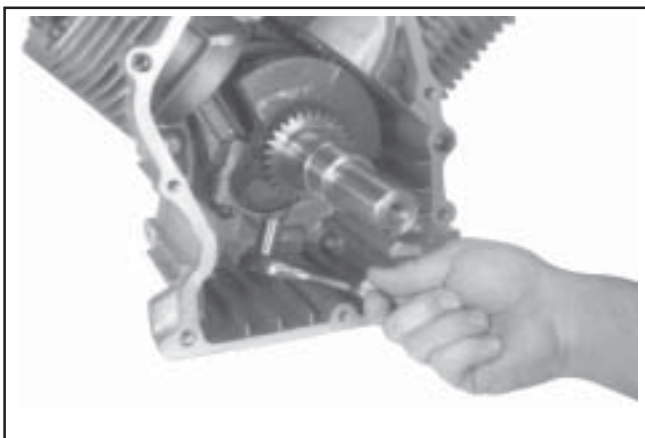

Figure 9-60. Removing Connecting Rod End Cap.
1. Remove the two hex flange screws securing the closest connecting rod end cap. Remove the end cap. See Figure 9-60.